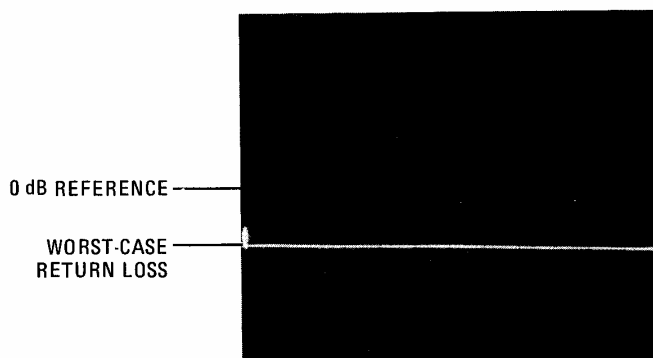

Figure 4-15. Port Return Loss (0.5 - 2 MHz)
- (1) Set 8505A Frequency Control RANGE MHz switch to .5 to 13. Set START FREQUENCY to 0.5 MHz and STOP FREQUENCY to 2 MHz. Connect short to Directional Bridge LOAD port.
- (2) Repeat steps k and l except that the indication should be  $\geq 20$  dB below the zero dB reference level for the frequency range 0.5 to 2 MHz (Figure 4-15).